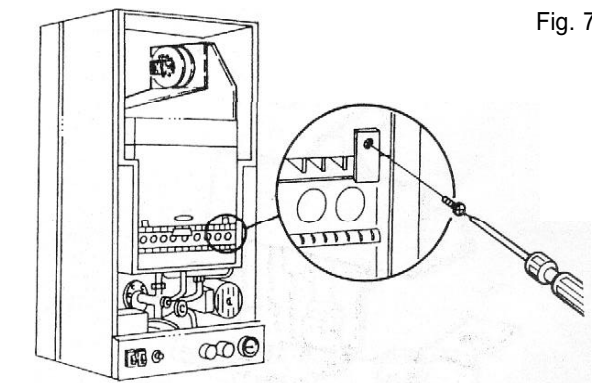

Fig. 74
**7.15.5** Remove the two screws securing the main burner to the combustion chamber (Fig. 74).